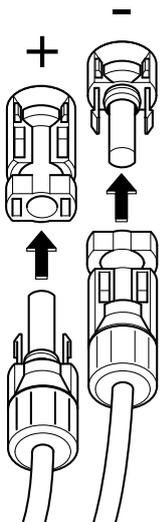

Fig. 38: Connect the PV string
6. Plug the sockets and plugs of the DC cables onto the inverter.  **Fig. 38** Keep the plug seals from the plug connectors.